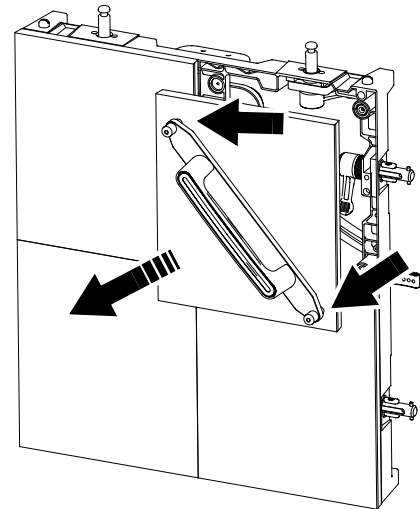

Figure 21: Replacing an LED block, front access
2. See Figure 21. Screw the prongs (arrowed) on the ends of the Removal Tool into the corresponding holes in the front of the LED block, then lift the block away from the panel.
3. Depending on whether you have access to the front or rear of the panel, use the removal tool shown in Figure 21 or the handle shown in Figure 20 to reinstall the block. You will need to use a little pressure to reconnect the LED block's multi-connector, but do not use excessive force.